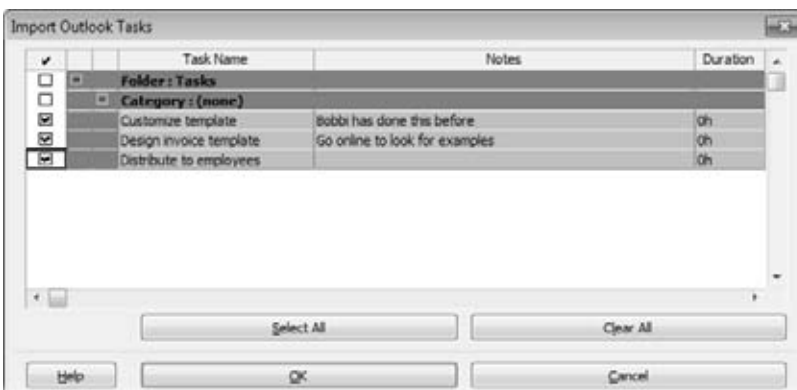

Figure 22-3:
2. **Select the checkbox for each task you want to import, as shown in Figure 22-3.**